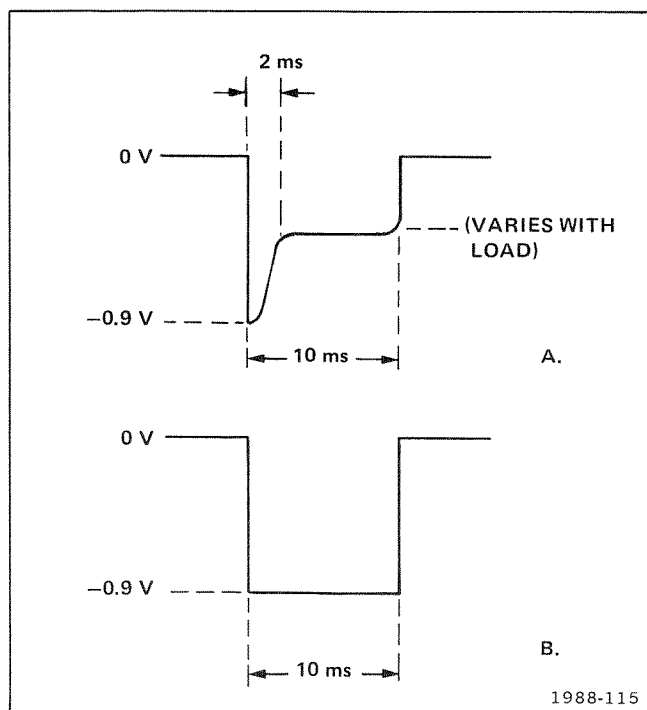

Figure 4-3. Current sensing waveform at R1287 showing: A. Power supplies not in current limit operation. B. Power supplies in current limit operation.
3. Compare the waveform on the test oscilloscope to those shown in Figure 4-3. If the waveform resembles that of Figure 4-3A, proceed to Step E of this procedure. If it resembles that of Figure 4-3B, proceed with part 4 of this step.